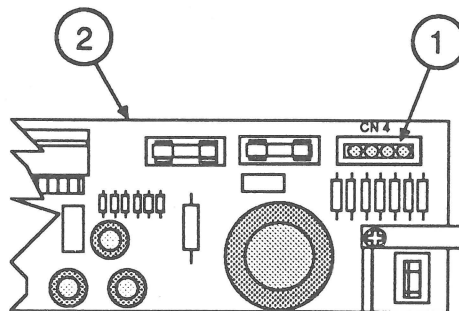

FIGURE 21
7. Carefully pull out the carrier motor connector that is connected to CN4 (Figure 21, #1) on the power supply board (Figure 21, #2). Then remove the wires from the wire harness clips.